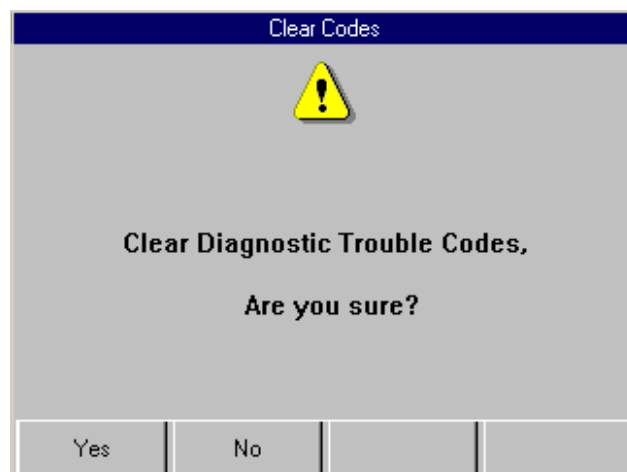
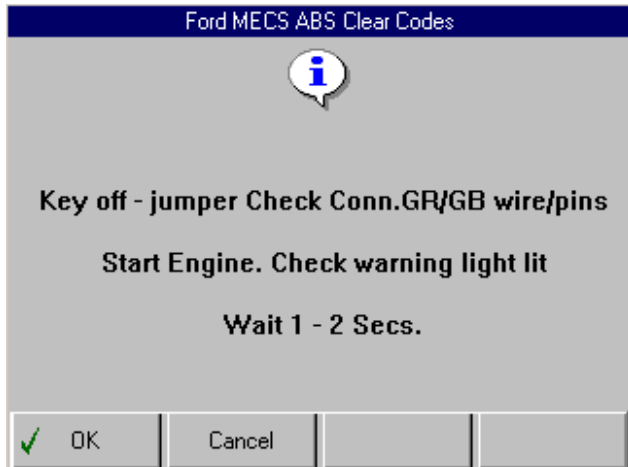

Figure 5.17: Clear Codes Instruction Screen
Figure 5.18: Clear Codes Instruction Screen
- 2 From the Diagnostic Trouble Codes menu screen, select **Clear Codes** and press the **ENTER** key. This displays a clear codes instruction screen similar to either figure 5.17 or figure 5.18.